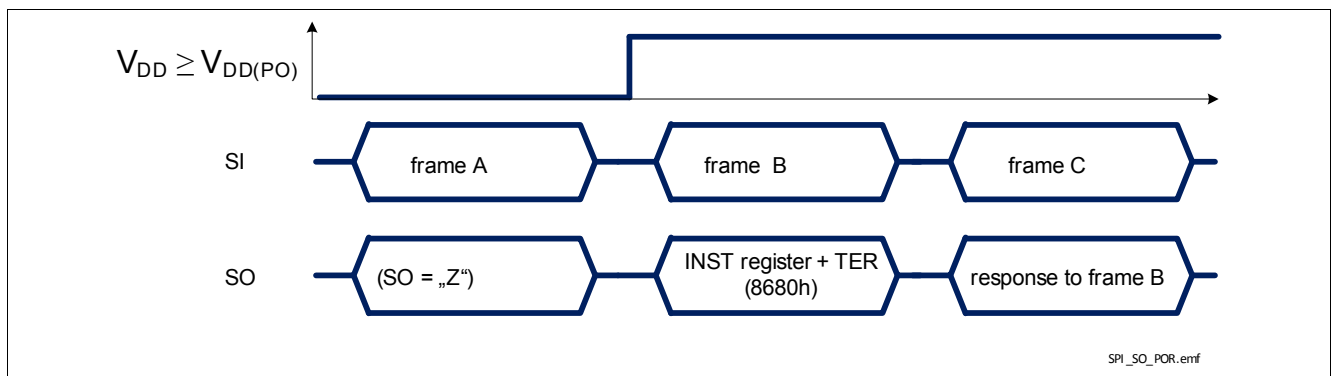

Figure 31 TLE75080-ESD response after coming out of Power-On reset at  $V_{DD}$
- when TLE75080-ESD logic supply comes out of Power-On reset condition or after a Software Reset, as shown in **Figure 31**